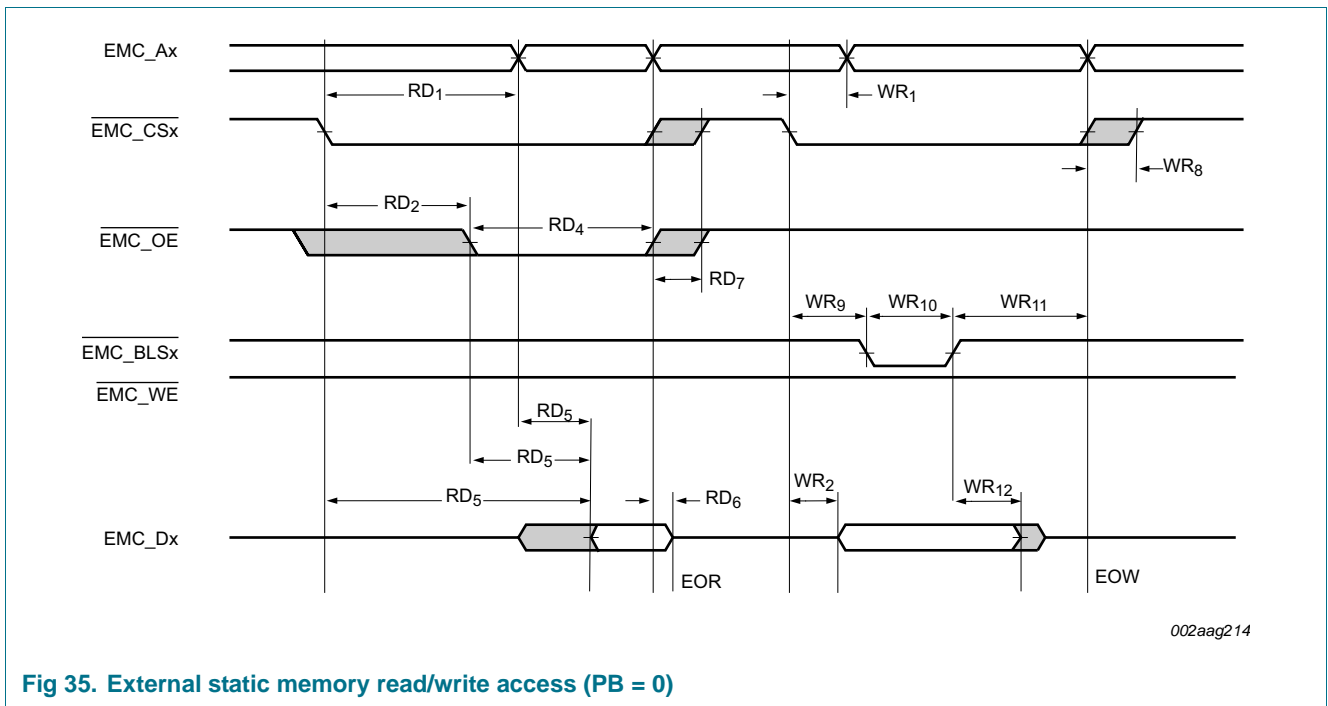

Fig 35. External static memory read/write access (PB = 0)
- [1] Parameters are shown as RD_n or WD_n in Figure 35 as indicated in the Conditions column.